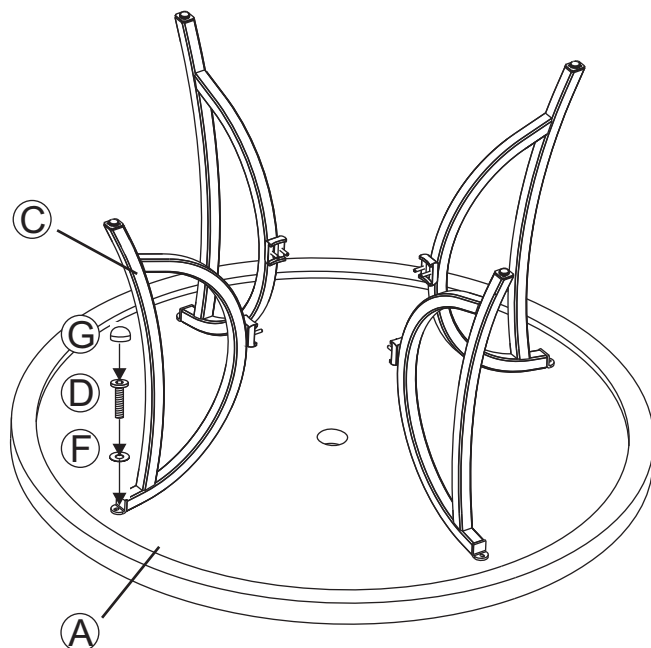

Figure 1
- 1 Place the table top upside down on a flat, non-abrasive surface. Attach a table leg to the table top by using the bolts and washers as shown in the **Figure 1**. Guide the bolts through the holes in the table leg, into the pre-drilled holes in the table top. **Hand tighten 2-3 turns only.** Repeat for the other three legs.
- 1 Place all parts on a flat, non-abrasive surface. Attach the chair frame to the chair base by using the bolts and washers as shown in **Fig.1**. Guide the bolts through the holes in the chair frame, into the pre-drilled holes in the chair base. **Hand tighten only 2-3 turns.** Repeat for the opposite side.